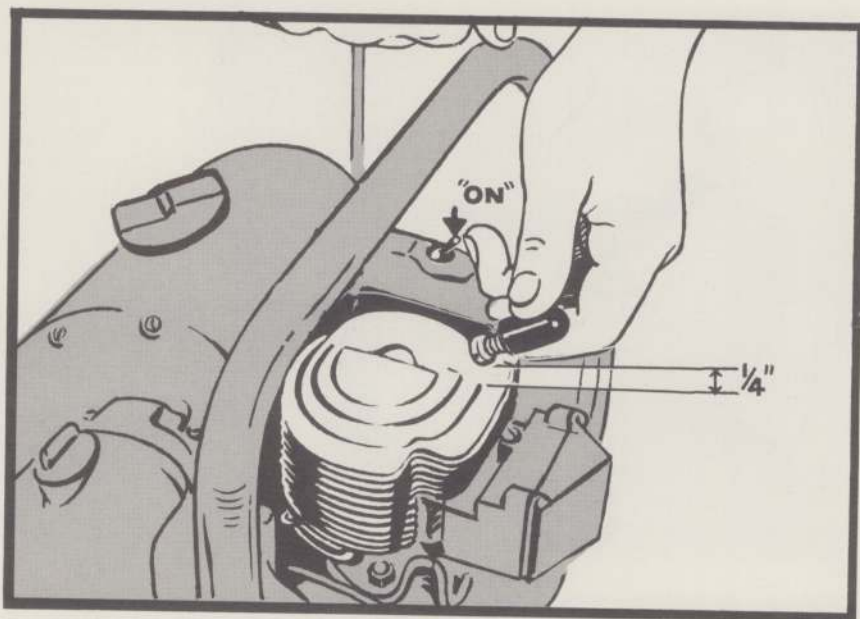

Figure 13—Testing for Magneto Spark
- (1) Spark plugs are made in wide ranges to suit different engines. The Zip chain saw uses Champion J-6-J (Homelite No. 40190-1) or HO-8A (Homelite No. 71530).
- (2) To remove the spark plug, remove the cylinder shield, held by three 8-32 pan head screws; twist the spark plug cover ("Sparky") clockwise and pull it off the spark plug terminal nut. Remove spark plug and gasket from the cylinder.
- (3) Clean both the porcelain insulation and the electrodes and adjust the electrode gap to .025". If the electrodes are badly burned or the porcelain is cracked, replace with a new spark plug and gasket.
- (4) A wet spark plug indicates a flooded engine and may be due to faulty fuel supply, spark plug, or faulty ignition. An oily spark plug indicates too much oil in fuel mix, dirty air filter, or rich carburetor adjustment.
- (5) With the spark plug removed, it is easy to test for ignition spark. Be sure the toggle switch is "on." Push a long 1/4-20 screw into the spark plug cover to contact the metal spring connector on the end of the high-tension lead. Hold the rubber cover as shown in figure 13 —keep fingers away from the screw to avoid shock—hold screw head 1/4" away from the cylinder, crank engine rapidly and observe the spark. If a strong spark jumps between the screw and the cylinder, the magneto is working properly. If there is only a weak spark or no spark, your Homelite servicing dealer or branch is equipped to check the complete ignition system.